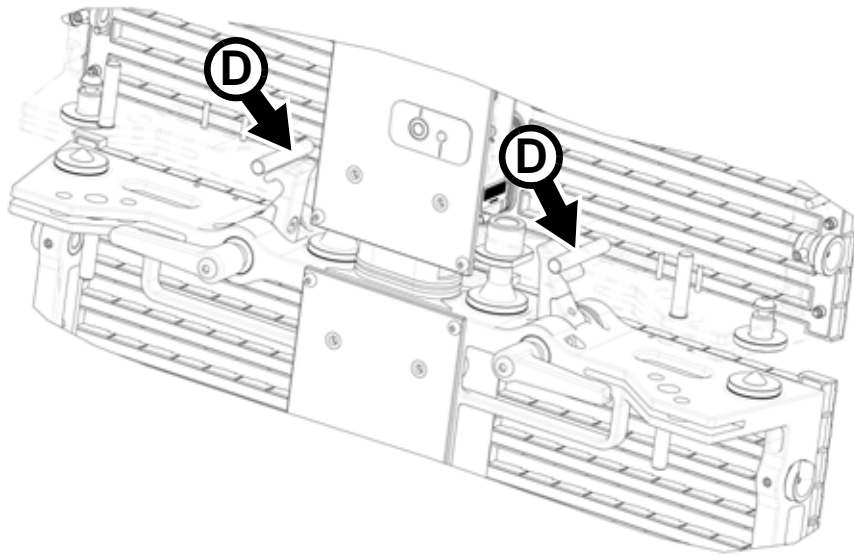

Figure 11: Hooks open around locking posts (cutaway view)
4. See Figure 11. Continue lifting the panel so that its spring-loaded locking hooks are pushed open by the locking posts **D** in the Header or panel above.